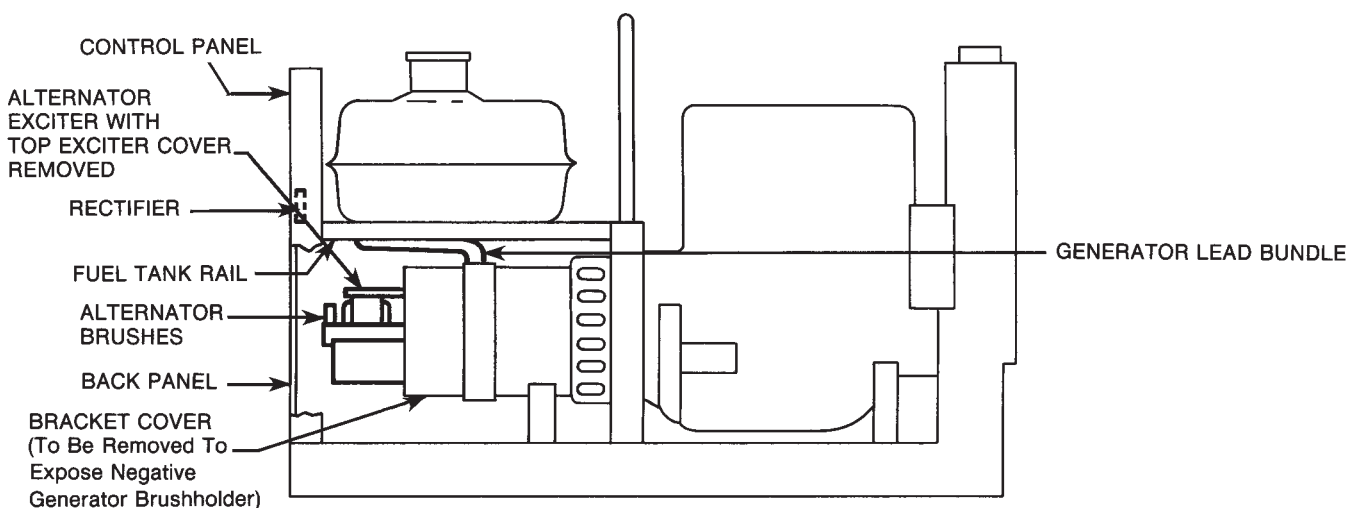

FIGURE 4 – SA-250 with Roof Assembly Removed.
1. Remove roof assembly, back panel, top exciter cover and bracket cover. See Figure 4.
4. Remove existing brown field lead from the black lead on the positive rectifier terminal and connect the brown field lead to CV Adapter lead 509 using the existing push-on terminal. Tape up connection and unused ring terminal. Rectifier located on back of control panel. See Figure 4.
NOTE: FOR STEPS 9 THROUGH 12, REFER TO FIGURES 4 AND 7.
9. The negative generator brushholder, exposed when bracket cover (see Figure 4) is removed, is at the 11 o'clock position when the commutator is viewed from the control panel end of welder. Remove the 5/16 bolt which connects the two existing cables to the negative brushholder. Obtain the thermostat assembly marked "250" and reconnect the two cables to the negative brushholder with *one end of the thermostat assembly bolts between the cable lugs and the brushholder.*